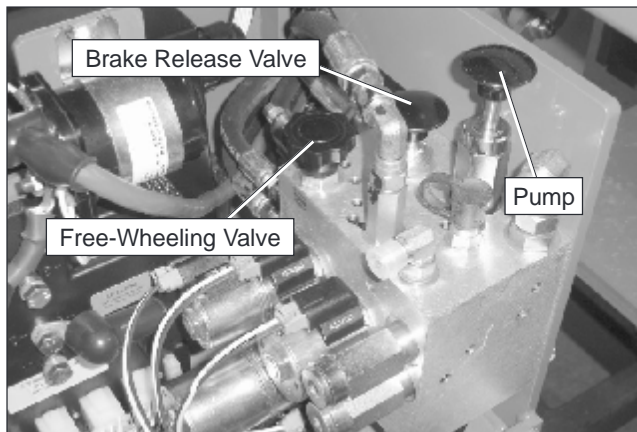

Figure 11.2 – S1930E/S1932E Hydraulic Tray
2. Unlatch and swing out the hydraulic tray on the right side of the chassis. The brake release valve, pump, and free-wheeling valves are located on the hydraulic manifold on the S1930E and S1932E machines (refer to Figure 11.2).